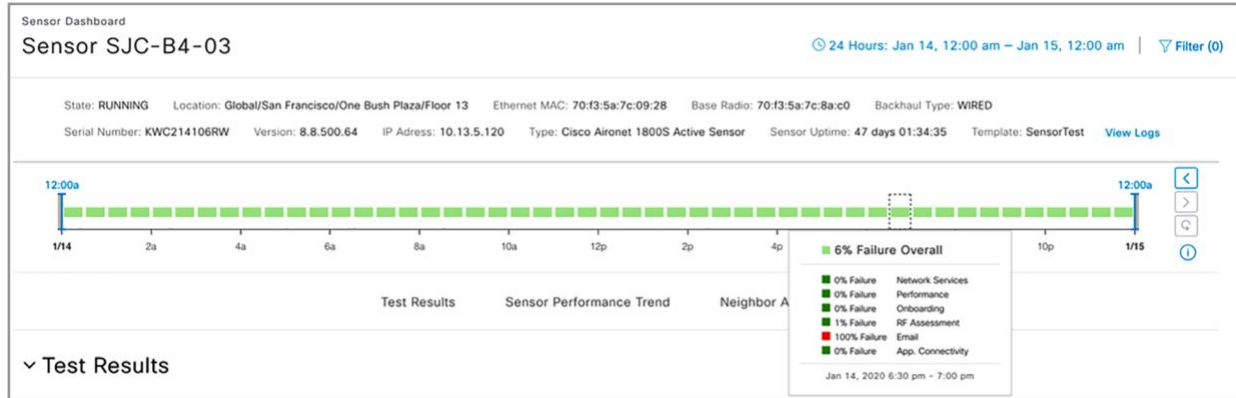

Figure 92.
1. Click the name of a sensor from any page (Wireless Sensors dashboard, Inventory, etc.) to enter the Sensor 360 page (**Figure 92**).